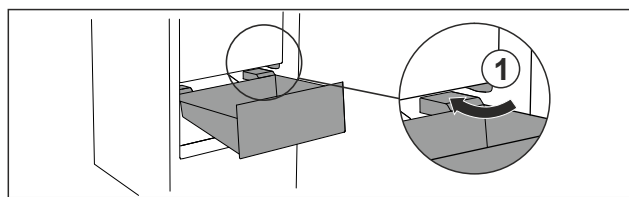

Fig. 53
- Guide drawer in at an angle around the stoppers Fig. 53 (1).